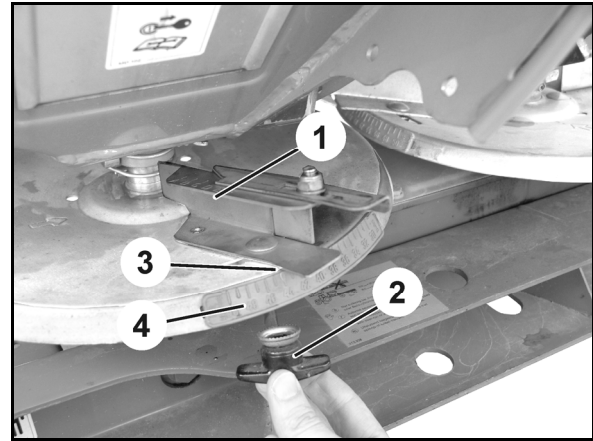

Fig. 80
5. Install the border spreading vane (Fig. 80/1) on the spreading disc using the thumb nut (Fig. 80/2).
6. Set the read-off edge (Fig. 80/3) to the number on the scale (Fig. 80/4) according to the setting chart and retighten the thumb nut (Fig. 80/2).